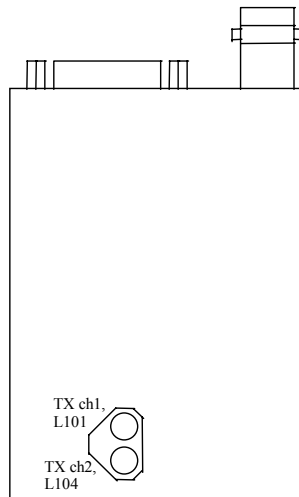

Figure 2-9 - Motorola Transceiver Coil L101 Location
2. The center frequency should be within +/- 2.29 KHz. If the reading is out of tolerance, correct by adjusting **Coil L101** in the Motorola radio. **Coil L101** is located inside the module as shown in Figure 2-9. This adjustment should be set for +/- 200 Hz at room ambient temperature.